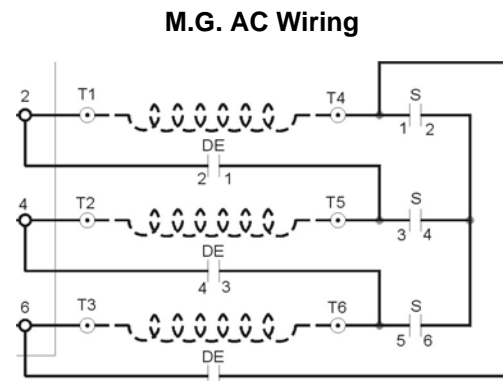

Figure 1-12
- The first circuit is for the generator A/C motor, which consists of current conductors wired from the controller starter relays to the A/C motor windings. [See Figure 1-12.]